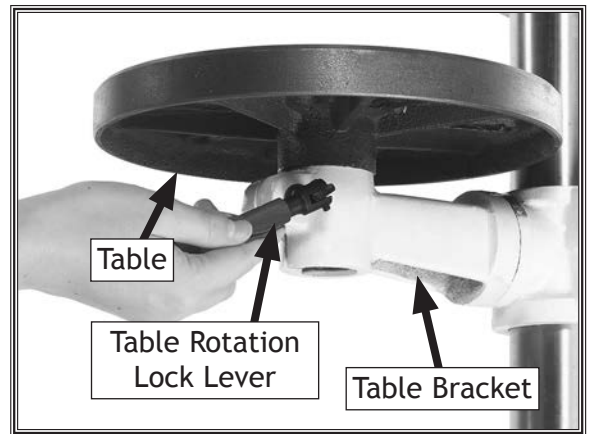

Figure 16. Model W1669 table assembly.
- 12. **W1669 Only:** Install table onto the table bracket and tighten table rotation lock lever to secure (see Figure 16).